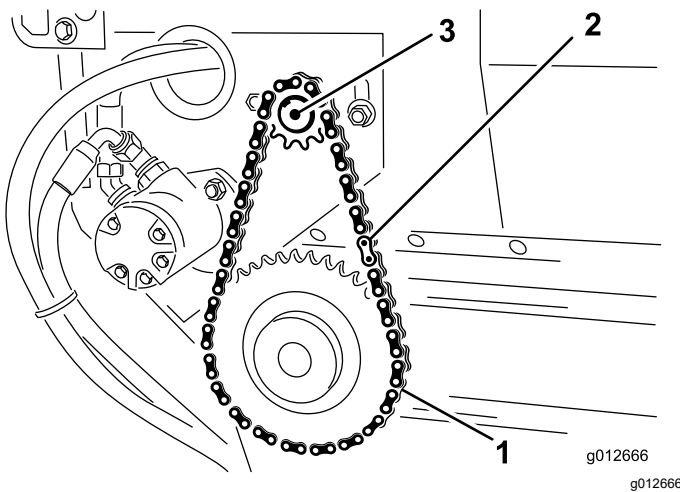

**Figure 28**
1. Remove chain cover (Figure 28).